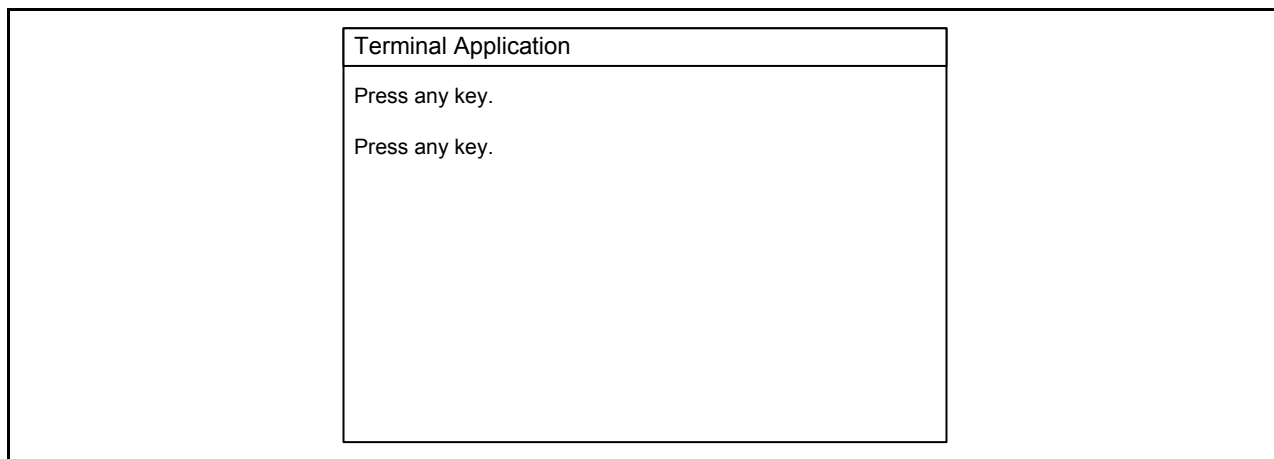

Figure 5.2 Screen Example When Waiting for Key Input
- (1) After a reset, if the MCU is not connected to a PC and the value in the target reset vector (address FFFD FFFCh) is not FFFF FFFFh, the target program is executed. If connected to the PC, the MCU transmits the message "Press any key" to the PC at a certain intervals until the MCU receives a data (until the terminal application is started and a key is pressed on the keyboard). See Figure 5.2 below.